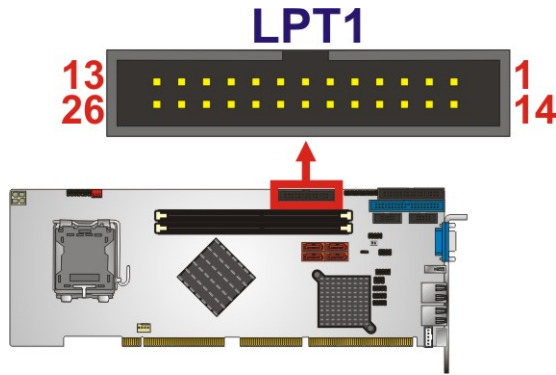

Figure 3-15: Parallel Port Connector Location
- CN Location:** See **Figure 3-15**